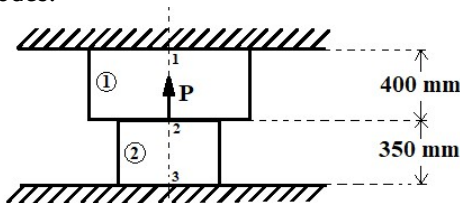

Figure: 2
Q.4(b) 2 elements with total 3 numbers of nodes are shown in the figure (Figure: 2). Element 1 is having cross sectional area of 2000 sqmm and made up of steel, having young's modulus = 200 GPa and Element 2 is having cross sectional area of 800 sqmm and made up of aluminium having young's modulus = 70 GPa. The load (P) acting on node 2 is 220 KN. Find out nodal displacements and forces (vectors with proper signs) acting on each nodes. [7]